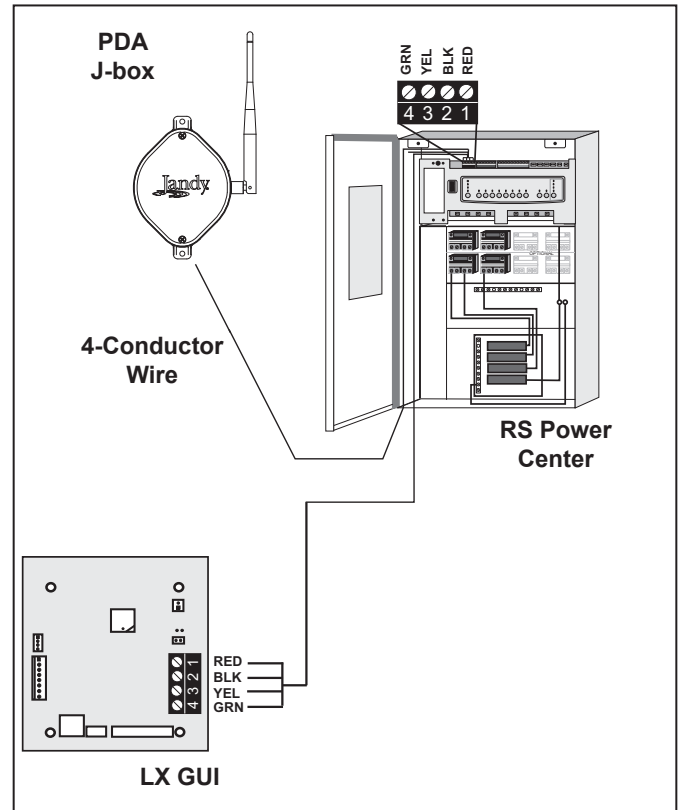

Figure 17. LX™ Heater Connection to Power Center
3. Run a 4-conductor cable from the LX GUI red, 4-pin connector to the RS power center red, 4-pin connector (see Figure 17).